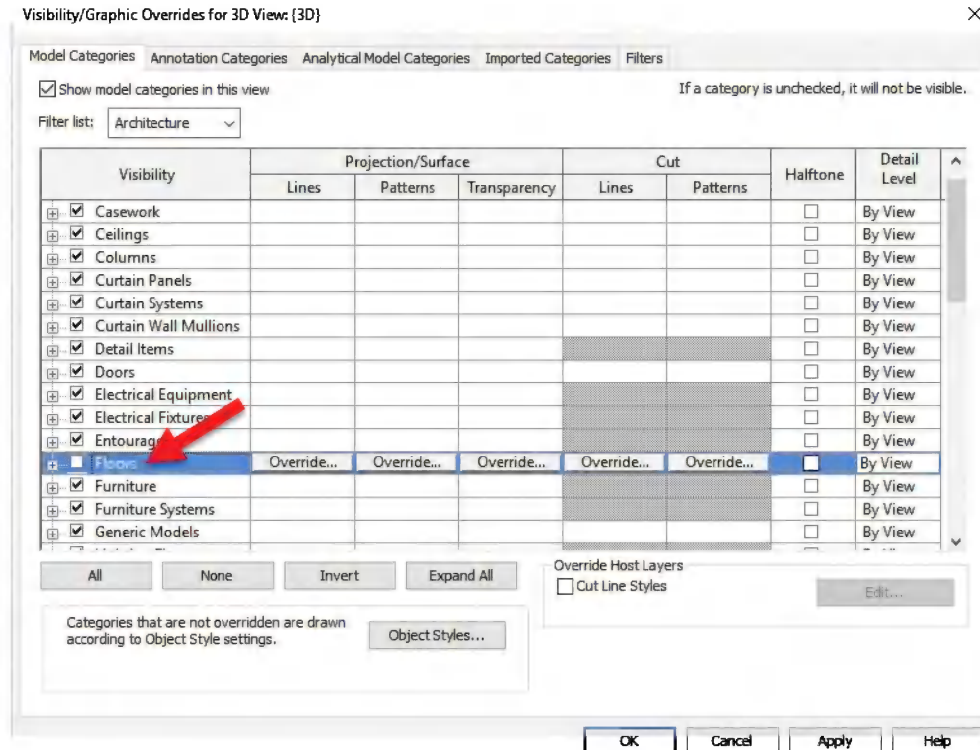

FIGURE 15-5.8 VISIBILITY control in the project
23. Uncheck *Furniture* on the *Model Categories* tab (Figure 15-5.8).